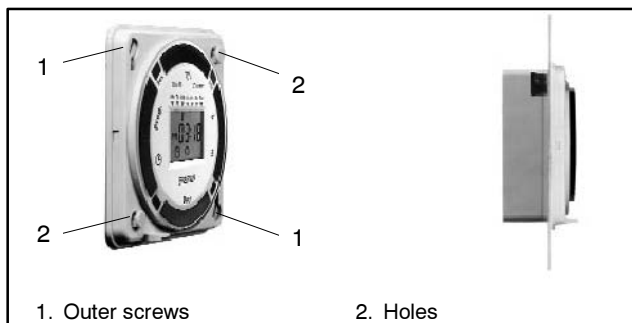

Figure 2 Mounting Flanges
3. Insert plugs into the unused holes. See Figure 2.